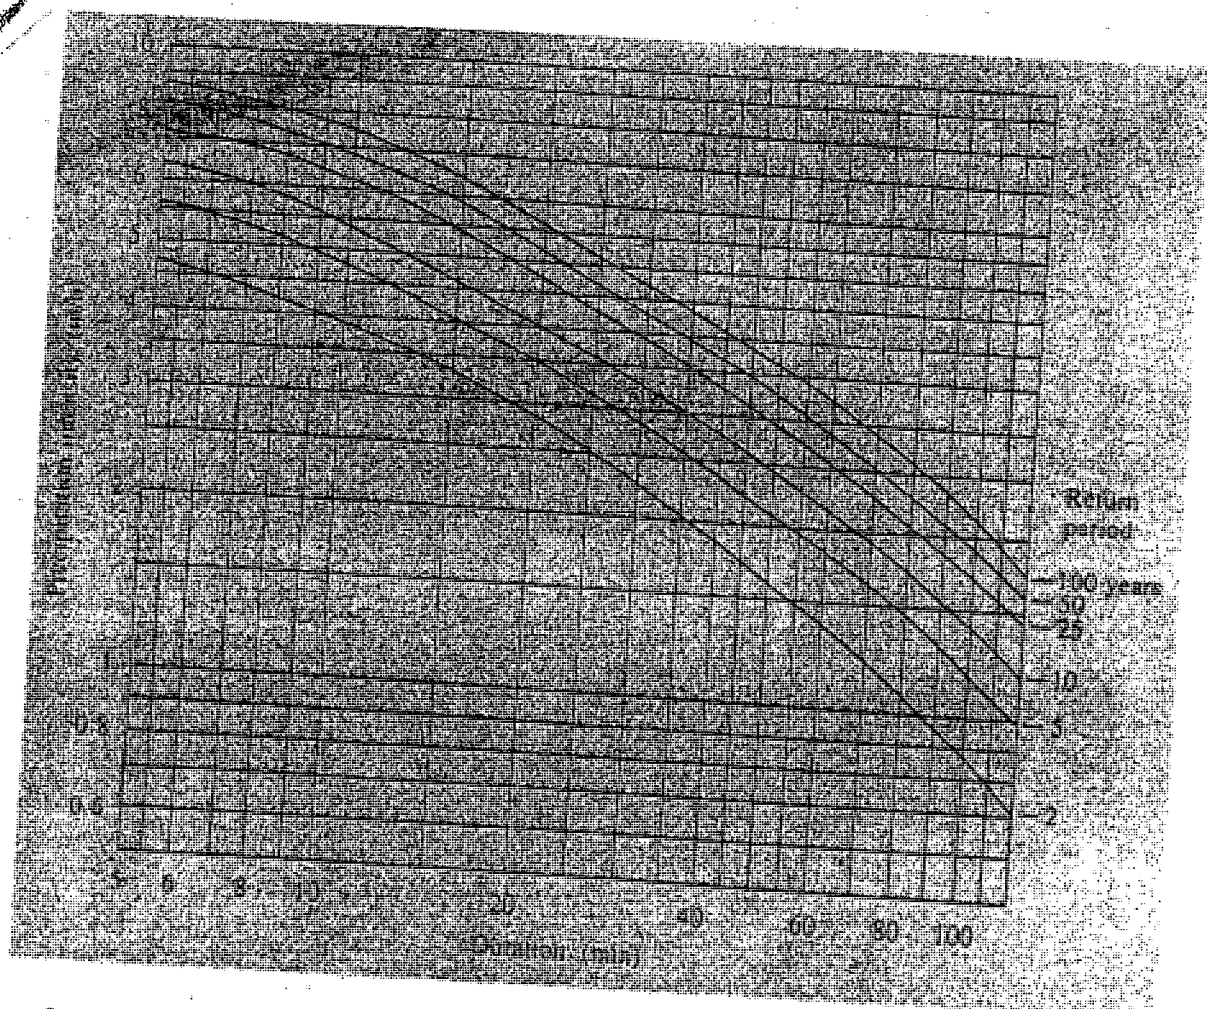

Fig. 1 . ZDF Curves [for Q. No. 4(b)]
3. (a) Briefly explain the three mechanisms of air mass lifting. (5)
- (b) The relative humidity and saturation vapor pressure are computed to be 70% and 2400 Pa respectively. Assuming standard air pressure, find out the following: (15)
- (c) Calculate precipitable water for surface temperature of 10 °C in first 1 km of saturated atmospheric column if the surface pressure = 101.3 kPa and lapse rate = 6.5 °C/km. Also compute precipitable water for surface temperature of 25 °C in first 1 km of similar column and calculate the percent increase or decrease from the previously computed value. Assume any reasonable value for missing data. (15)
4. (a) Write down the factors that affect infiltration capacity and explain in brief. (5)
- (b) The design precipitation intensity for a storm with a T-year return period with slope of 0.00425 and maximum length of travel of water of 1100 m for the catchment is 3 in/hr. Estimate the design return period (T). Also estimate the design precipitation volume (m³) as well. Also find out the design peak discharge (m³/s) using rational method for the catchment. The area of the catchment is 2 km² and runoff coefficient is 0.5. Use the IDF curves (Fig. 1) and Kirpich formula for your estimation. (15)
- (c) Four rain gages located within a rectangular area with four corners at (0,0), (0,13), (14,13) and (14,0) have the following coordinates and recorded rainfalls: (15)